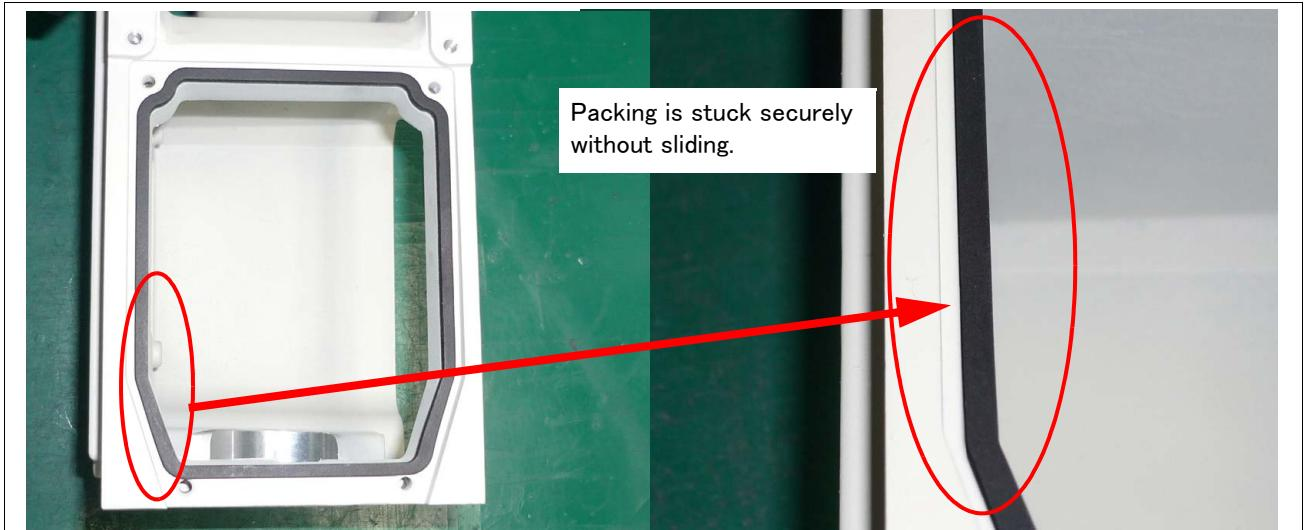
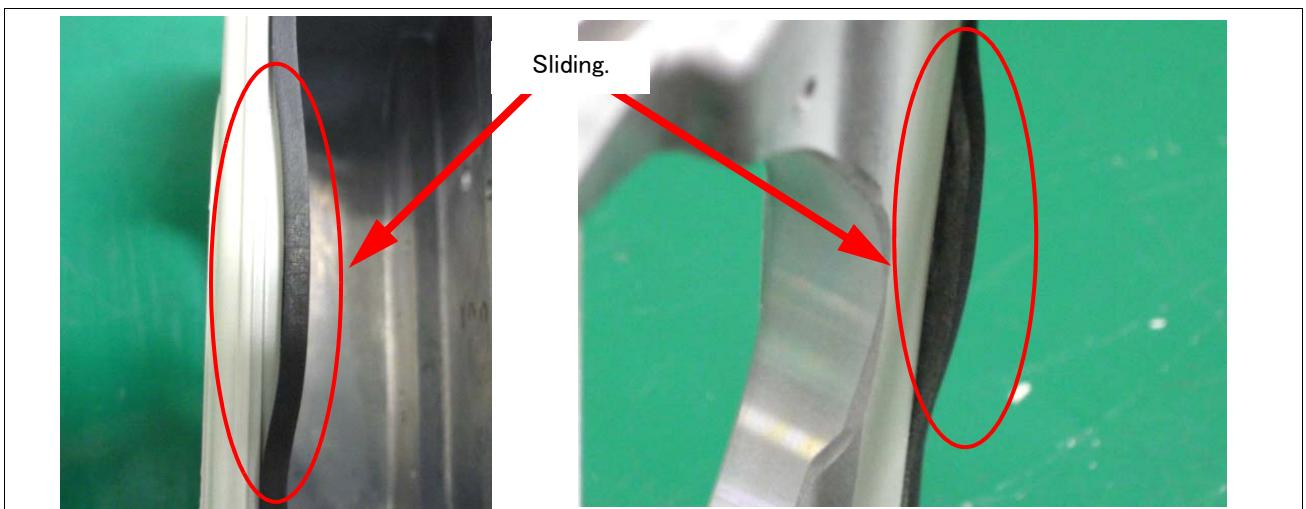
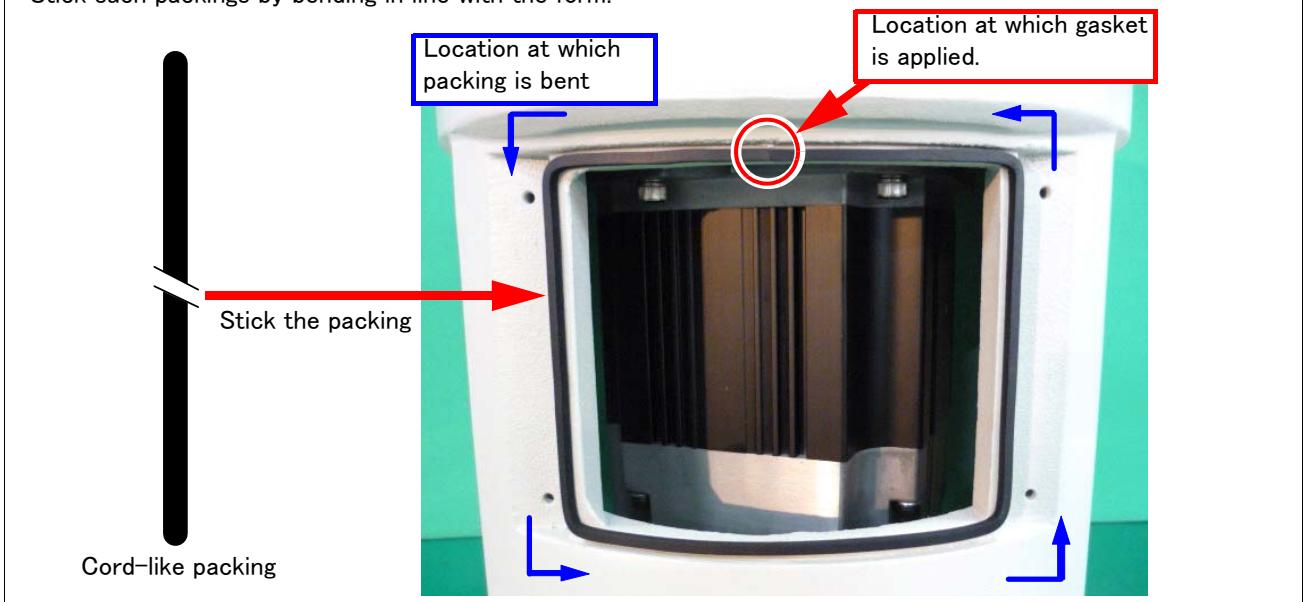

Fig.5-6 : Example of sticking packing (good example)
Fig.5-7 : Example of sticking packing (bad example)
Fig.5-8 : Sticking the cord-like packing
- 2) The sticking surface of packing is double-coated adhesive tape. Referring to "Fig.5-6 : Example of sticking packing \(good example\)" and "Fig.5-8 : Sticking the cord-like packing", and stick the packing in line with form . Be careful for the packing not to slide. The example of unsuitable packing slid is shown in "Fig.5-7 : Example of sticking packing \(bad example\)".